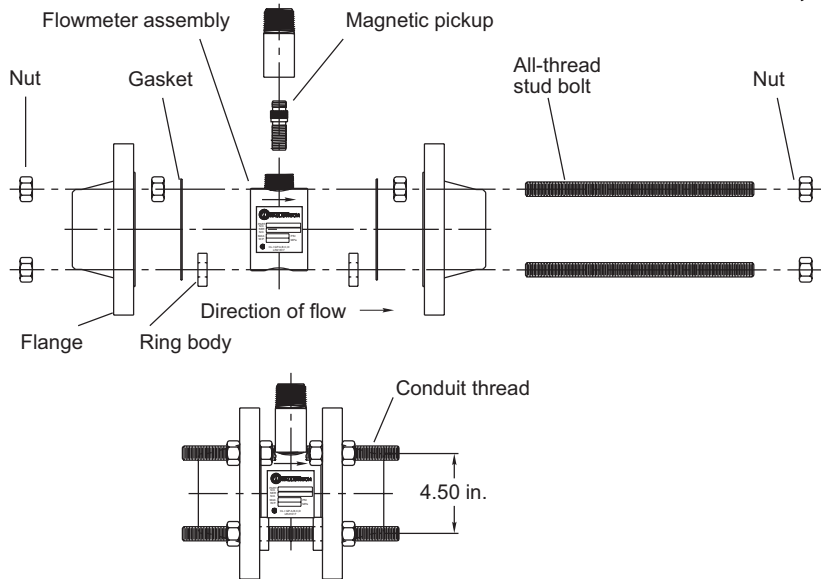

Fig. 3—Removing and inspecting the meter.
1. Remove the magnetic pickup (Fig. 3, Page 7) to avoid damaging it.
2. Remove one or more of the flange bolts (Fig. 3, Page 7). Loosen the remaining flange bolt nuts to allow clearance for the meter. Free the meter by turning the spreader nuts.